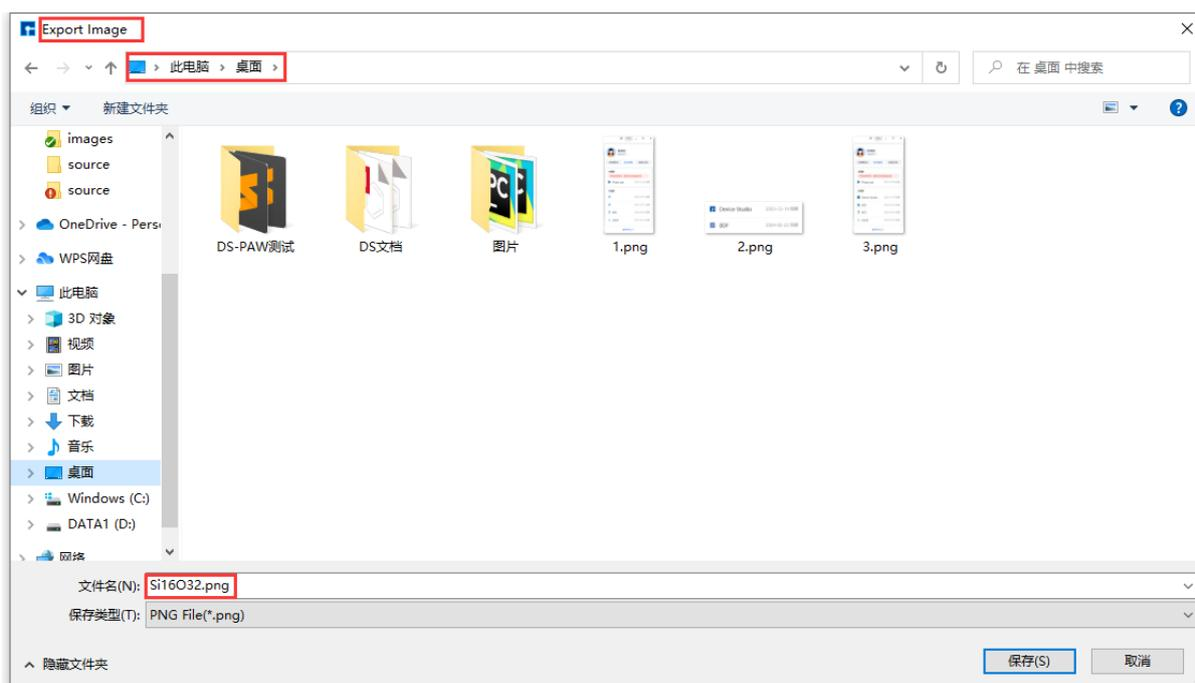

fig. 6.6: Export Image Files (.png, .jpg, .bmp, .pdf, .tif, .eps) Interface
- – *Export Image*: Clicking this button opens a dialog for exporting image files (.png, .jpg, .bmp, .pdf, .tif, .eps). Users can name the image file as needed and select a storage location, as shown in fig. 6.6.